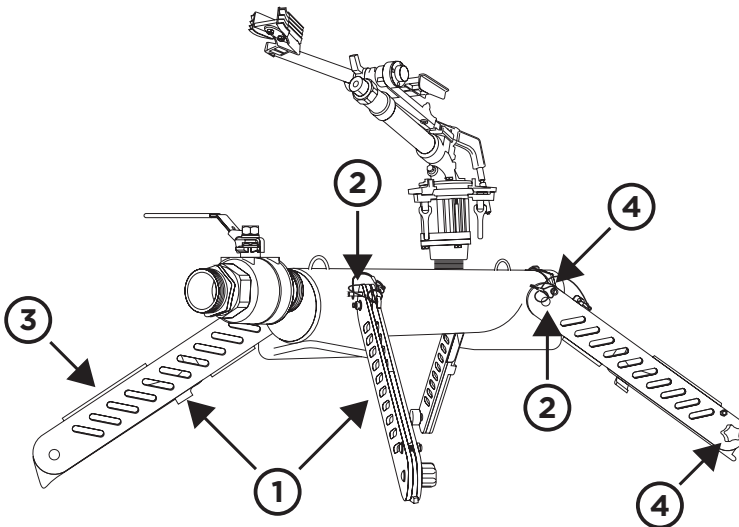

Figure 1.
- Place unit on ground and pull out extendable legs until they lie flat on the ground **①**, *Figure 1*.
- Set up feet at an angle to the ground as shown in *Figure 1*, for more stability. To do this remove the pin **②** from each leg rotating the legs out until they hit the ground. Do this for all legs.